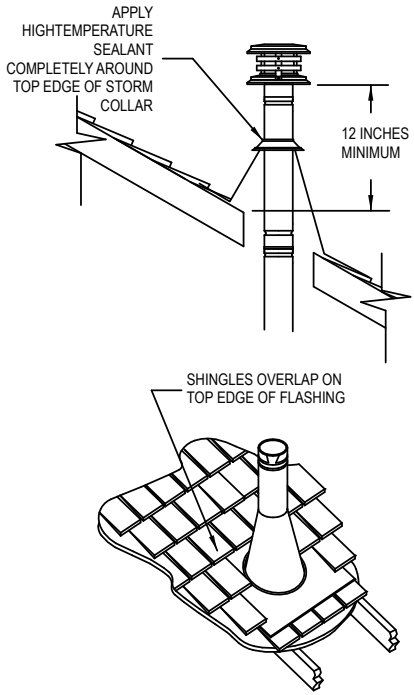

Figure 2
H. To finish, apply high-temperature waterproof sealant where the Storm Collar will meet the vent and Flashing; slide Storm Collar down until it sets on the Flashing, put the Cap on and twist to lock (**Figure 2**).
11. Slip the Flashing over the pipe section(s) protruding through the roof. Secure the base to the roof with roofing nails as shown in **Figure 24**. Insure that the roofing material overlaps the top edge of the Flashing (**Refer to Figure 2**).